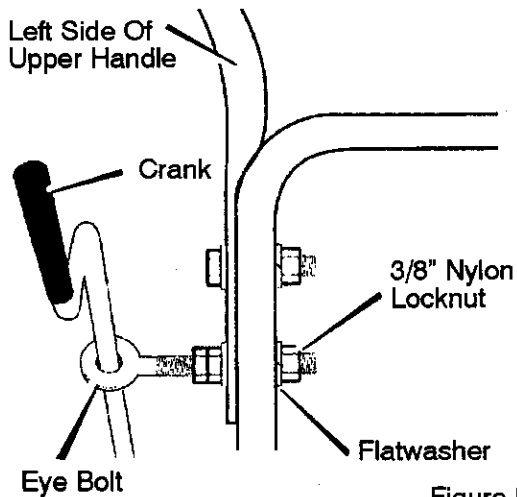

Figure 5
4. Remove the fasteners and the eyebolt from the lower holes of the lower handle See Figure 5.